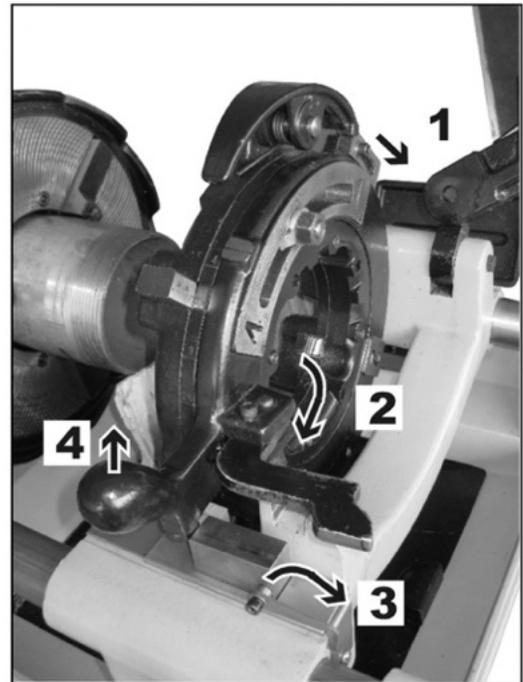

Fig 5
- 4. With die head in DOWN position, pick up cam locking plate handle until release handle (Figure 5, Step 4) engages notch.